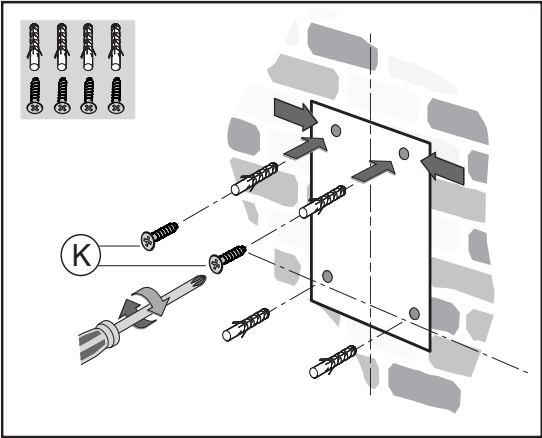

Fig.3
- Mark the fixing holes and cut them into the material (Fig.3).
- Fix the 2 top screws **K** and screw anchors (Fig.3), without tightening them completely.